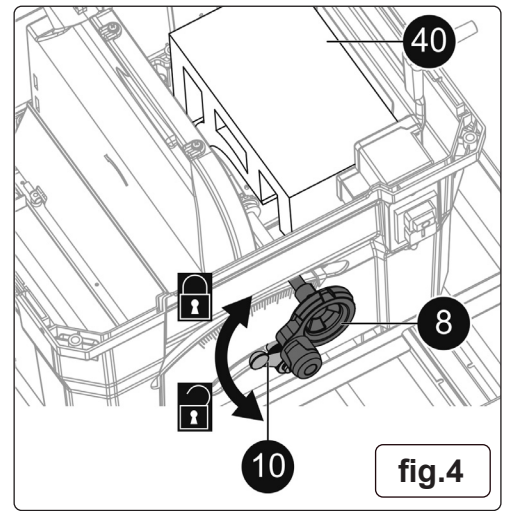
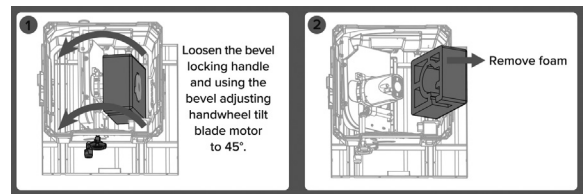

fig.4
fig.3A
5.1. REMOVING TRANSIT PACKING refer to fig.3A & fig.4